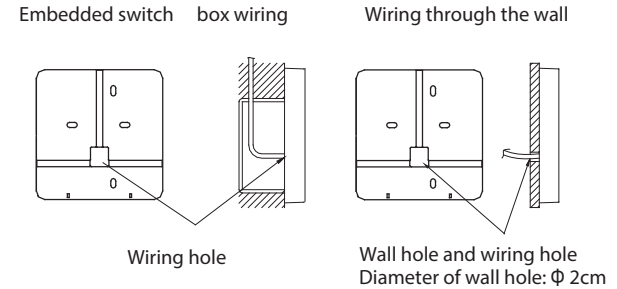

Fig. 6
- For shielded wiring, please refer to Fig. 6.